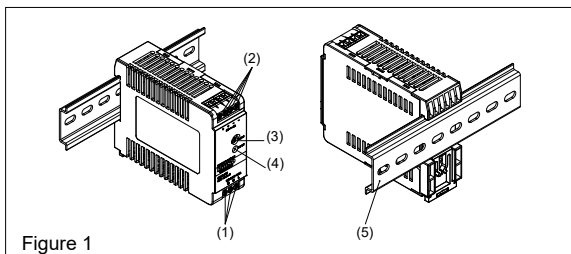
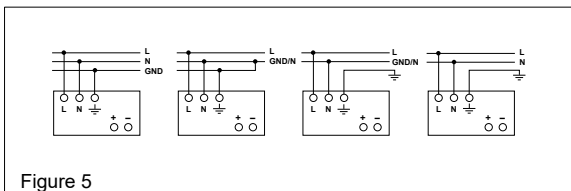

Figure 1
Figure 5
### 5.1. Input connection (Fig. 1, Fig. 5)
Use L, N and GND connections of input terminal connector (see Fig. 1 (1)) to establish the 100-240 VAC connection. Typical connection methods are shown in Figure 5.
### 5.2. Output connection (Fig. 1 (2))
Use the "+" and "-" screw connections to establish the 5VDC connection. The output provides 5VDC. The output voltage can be adjusted from 5 to 5.5 VDC on the potentiometer. The green LED DC OK displays correct function of the output (Fig. 1 (4)). The device has a short circuit and overload protection and an overvoltage protection limited to 6.325-7.425 VDC.